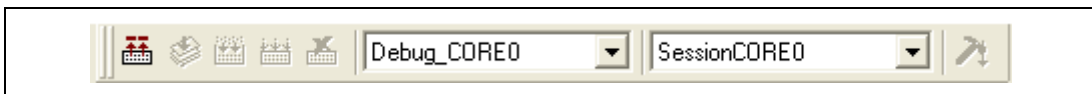

Figure 4.19 Toolbar Selection
Select a session from the drop-down list box (figure 4.19) in the toolbar.
3. Click the [Properties] button to display the [Session Properties] dialog box (figure 4.19).